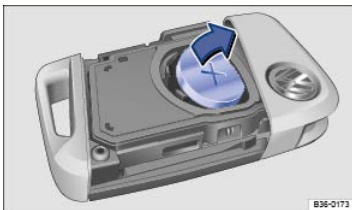

Fig. 51 Remote control vehicle key: Changing the battery.
- Use a thin object to pry the battery out of the battery compartment in the direction of the arrow ⇒ Fig. 51.
- Position the new battery with the + side facing up and press the battery carefully into the battery compartment (opposite direction of the arrow) ⇒ ①.